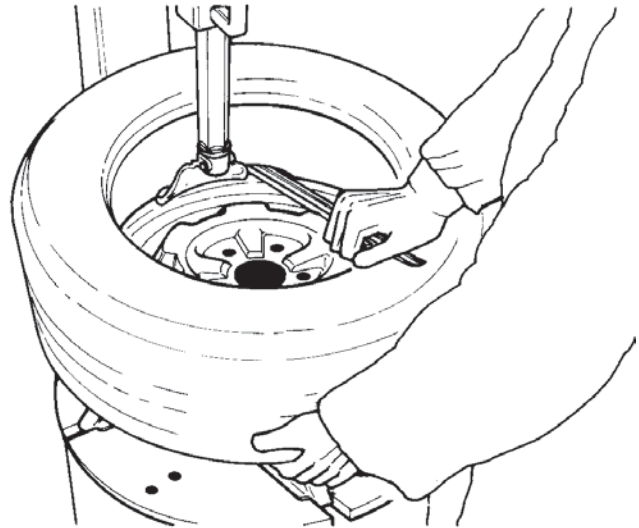

Fig. 18
H. Repeat the process for removing the lower bead. This time, lift the bead opposite to the mount/demount head to keep it in the drop center (Fig. 18).